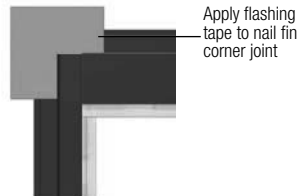

FIG. 12
- Cut an "L" shaped piece of flashing tape and apply over the nailing fin open corner between the jamb and head. (Fig. 12)